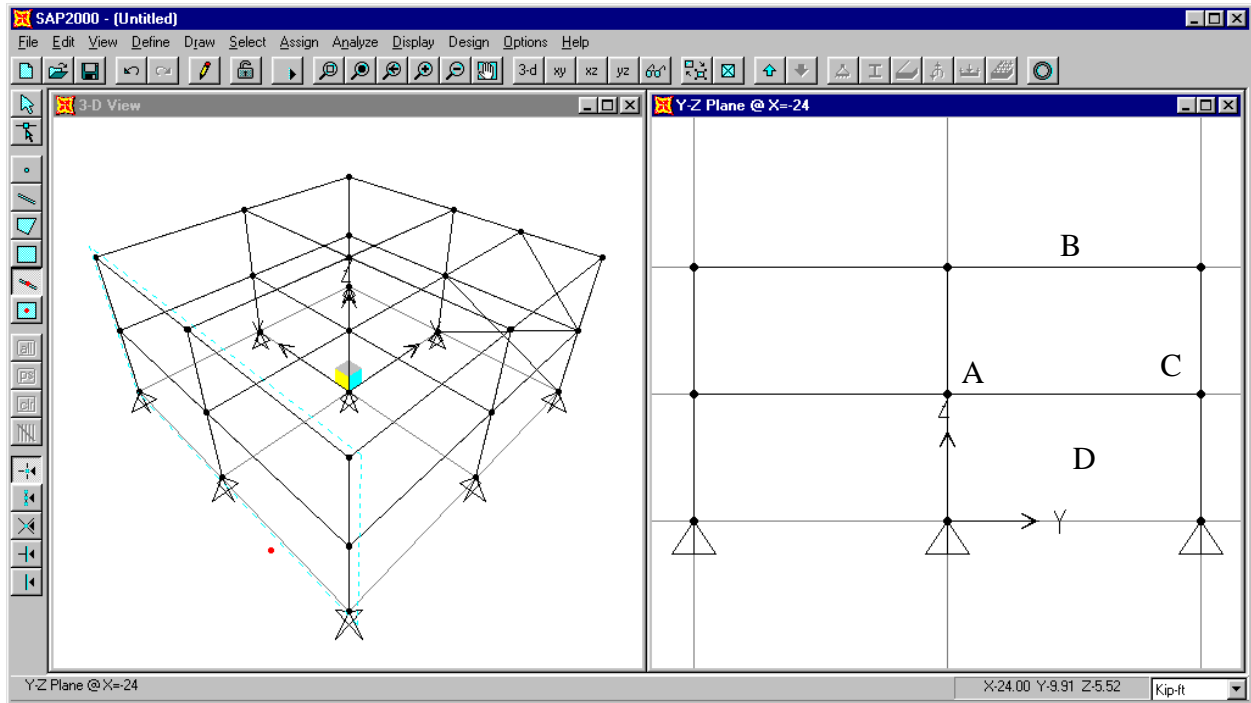

Figure C-5: Model Ready To Draw Second Set of Braces
- 16 Click the **Down One Gridline** button  on the main toolbar twice to display the YZ elevation at X=-24. Note the window title changes to Y-Z Plane @ X=-24. The model appears as shown in Figure C-5.
18. Place the mouse pointer on the joint labeled “A” in Figure C-5 and click on the left mouse button.
19. Move the mouse pointer over to the center of the beam element at the point labeled “B” in Figure C-5. When the Snap To feature text box appears saying “Midpoint” click the left mouse button to input the brace element. Then press the Enter key on the keyboard.
21. Click on the joint labeled “C” and then the joint labeled “B” in Figure C-5, and then press the Enter key on the keyboard to draw the second chevron brace member.
22. Click the **Quick Draw Frame Element** button  on the side toolbar. Then click in the area labeled “D” in Figure C-5 to enter the X-braces.